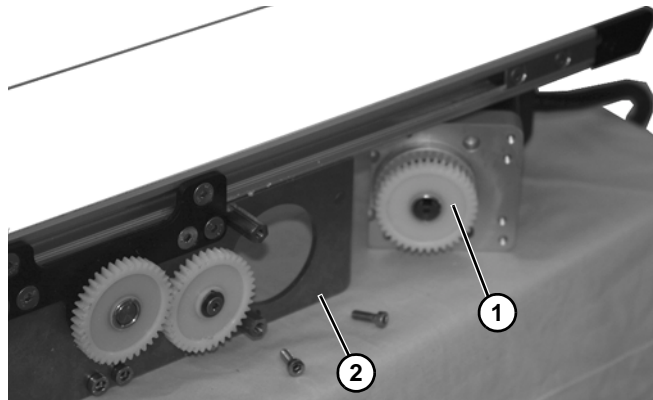

Figure 19
5. Remove drive motor (**Figure 19, item 1**) from mid drive bracket (**Figure 19, item 2**).